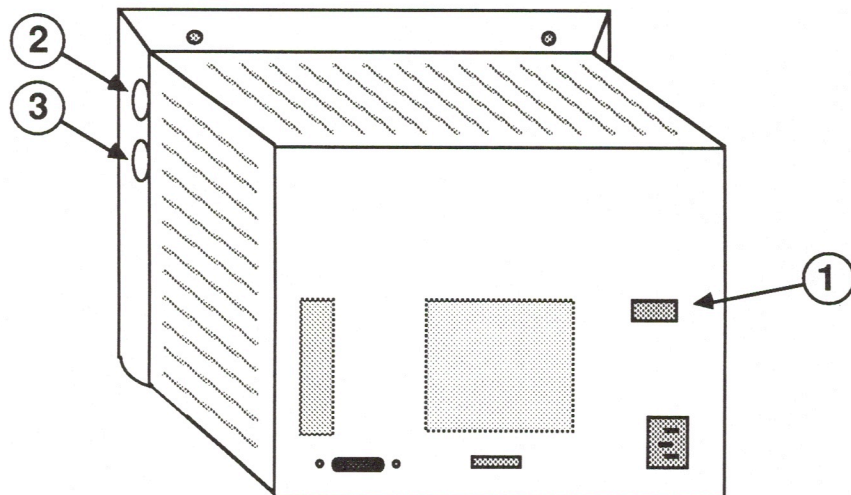

FIGURE 1
- IPL.3 Internal Assembly (Figure 1)
The power switch (Figure 1, #1), contrast control (Figure 1, #2), and brightness control (Figure 1, #3) are the only controls recommended for user access. The LED on the lower front case indicates when the power is on.